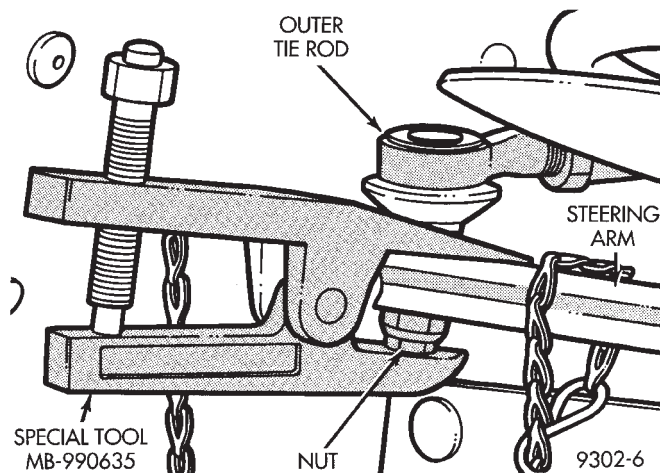

Fig. 21 Removing Outer Tie Rod From Steering Arm
(4) Loosen but do not remove outer tie rod to strut assembly steering arm attaching nut (Fig. 21). Then remove outer tie rod from steering arm using Puller, Special Tool MB-990635 or equivalent (Fig. 21).
(5) Remove outer tie rod from adjustment sleeve.